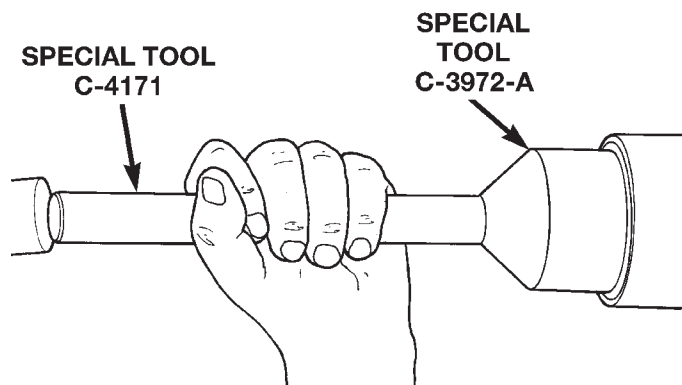

Fig. 8 Pinion Seal Installation
- (1) Apply a light coating of gear lubricant on the lip of pinion seal. Install seal with Installer C-3972-A and Handle C-4171 (Fig. 8).